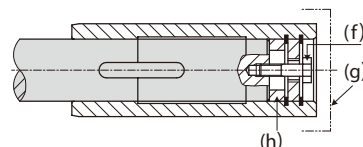

Fig. 5-12 Retaining in Special Cases
1. If the driven shaft has no stage when mounting as shown in Fig. 5-12, Use distance ring (h) to fix. (distance ring (h) is not supplied with the unit.) For distance ring dimension, refer to Table 5-3 on P16).